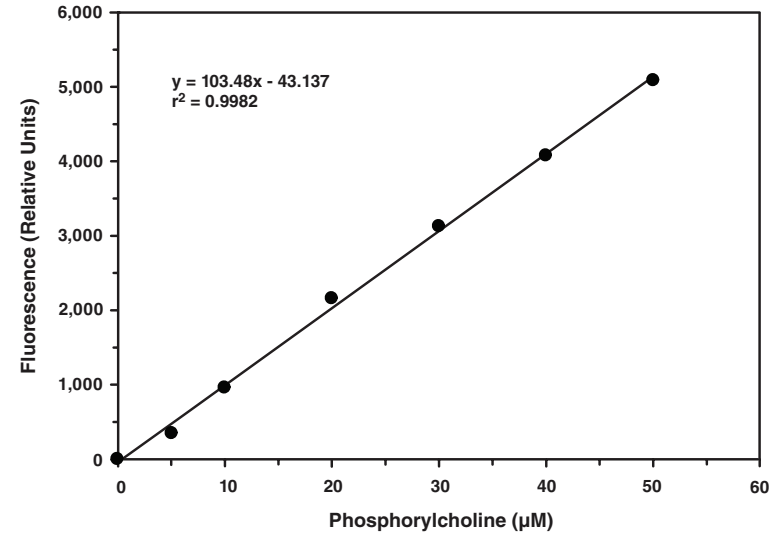

Figure 3. Phosphorylcholine standard curve
2. Subtract the fluorescence value of the sample background from the fluorescence of the sample wells to yield the corrected fluorescence (CF).
4. Plot the corrected fluorescence values (from step 3 above) of each standard as a function of the final concentration of phosphorylcholine from Table 1. See Figure 3, on page 19, for a typical standard curve.